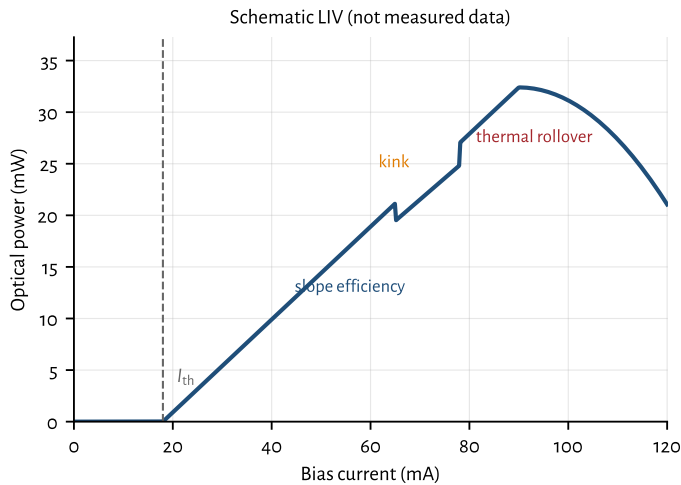

Figure 5.1: Schematic LIV curve with threshold, slope, kink, and thermal rollover labeled. Idealized for teaching; use measured LIV for pass/fail.
*LIV (light–current–voltage).* The LIV curve plots optical power and forward voltage versus bias current. Read off threshold  $I_{th}$ , slope efficiency (mW/mA above threshold), kink-free operating range, and thermal rollover at high current or high case temperature. Figure 5.1 is a labeled schematic (not measured data).